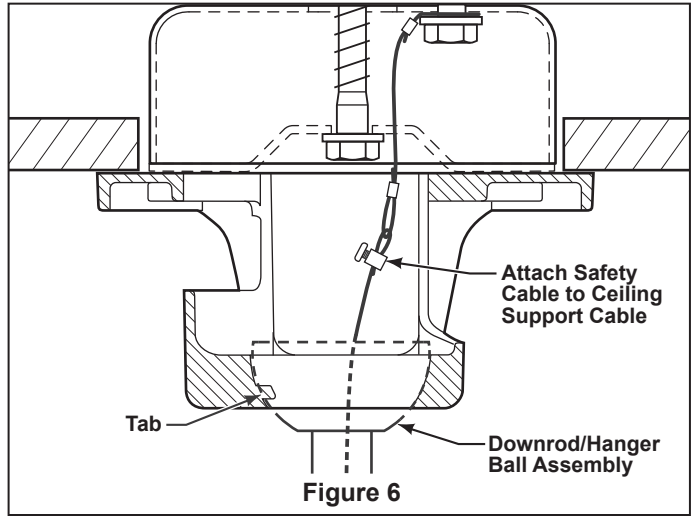

Figure 6
12. Carefully lift the fan and seat the downrod/hanger ball assembly on the hanger bracket that was just attached to the ceiling joist. Be sure the groove in the ball is lined up with tab on the hanger bracket. (Figure 6)
13. Attach the safety cable to ceiling support cable. Slide cable clamp onto safety cable (from fan). Place the end of cable through the loop of ceiling support cable. Pull as much cable through loop as possible. Feed end of cable into clamp hole and firmly tighten screw (Figure 6). Cut off excess safety cable.
12. NOW, securely and fully tighten the lag bolt in the center of the Hanger Bracket while being careful not to allow the Hanger Bracket to rotate. (Figure 6)
5. Carefully lift the fan assembly and seat the downrod/hanger ball/support bar assembly on the hanger bracket that was just attached to the ceiling joist. Be sure the groove in the ball is lined up with tab on the hanger bracket. (Figure 6)
6. Attach the safety cable to ceiling support cable. Slide cable clamp onto safety cable (from fan). Place the end of cable through the loop of ceiling support cable. Pull as much cable through loop as possible. Feed end of cable into clamp hole and firmly tighten screw (Figure 6). Cut off excess safety cable.